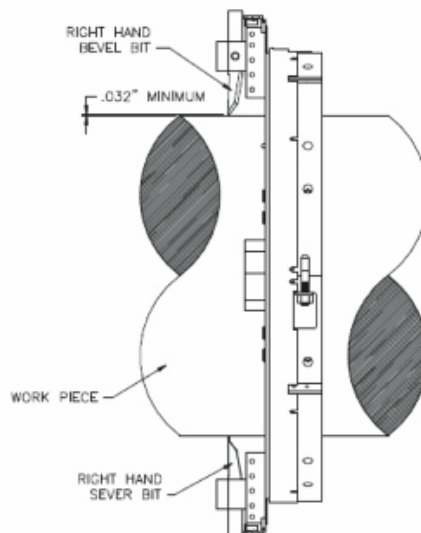

Fig 9. Tool Setup
5. After one complete revolution has been made tighten the cap screws on both tool blocks. Back the bevel bit 1/32" away from the work piece with the star wheel wrench (see Figure 9).